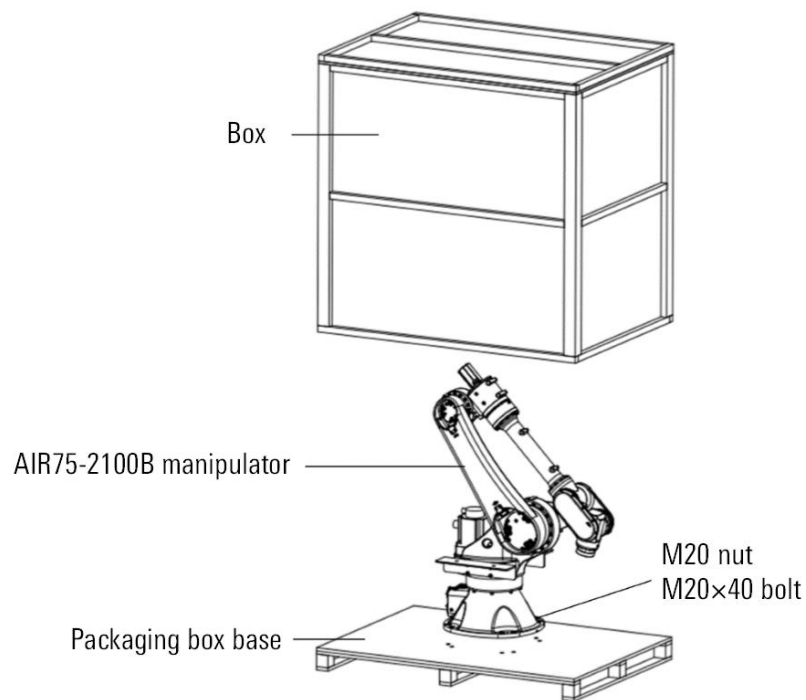

Figure 3-2 Composition of the AIR75-2100B manipulator packaging box
As shown in Figure 3-2 the packaging box of the AIR75-2100B manipulator is composed of a box body and a bottom bracket.
- Step2. According to the position shown in Figure 3-2 above, move the AIR75-2100B to the center of the base, and use an Allen wrench to tighten the M20 screws, washers, and M20 nuts connecting the AIR75-2100B, the base, and the end support, that is, the manipulator can be fixed to the bottom bracket.
Step3. Place the box on the bottom bracket according to the position shown in Figure 3-2 above. Use a wrench to tighten the screws, washers and nuts of the box and bottom bracket to fix the box and bottom bracket.